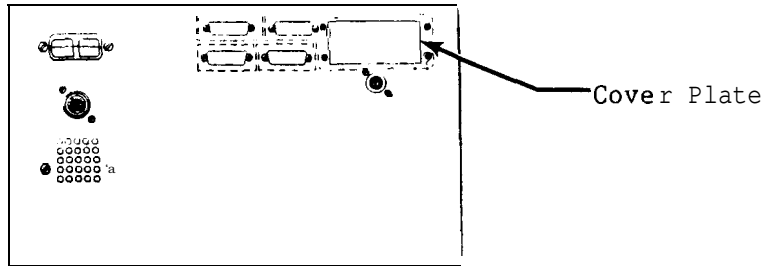

Figure 3.
11. Remove the large hole cover on the back panel of the computer module and install the Modem Outlet Plate (7003-0590) using the same hardware that was used to retain the plug see Figure 3.